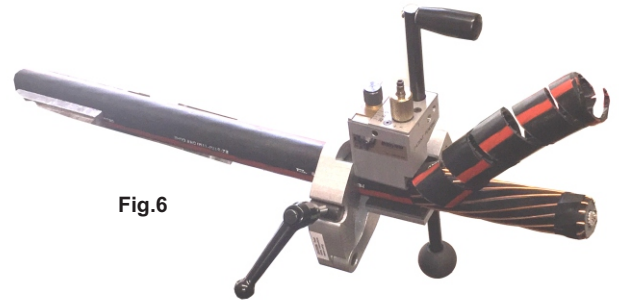

Fig.6
8. To end the cut, continue to rotate the tool up to end point. Using a stop clamp helps ensure a clean cut. Rotate the tool against the clamp or a gloved hand to break off the insulation chip and end the cut. Fig.6